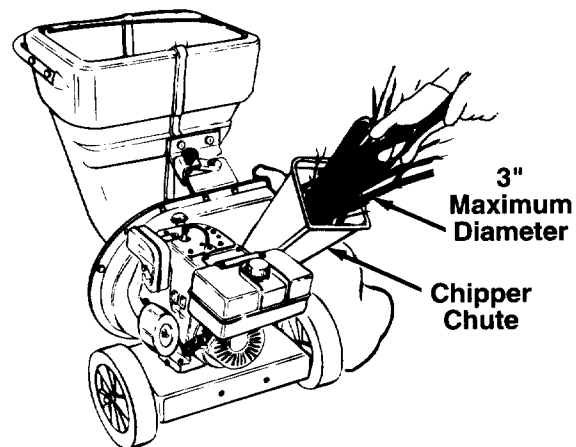

FIGURE 9.
3. Bulky material, such as stalks or heavy branches, **up to 3" in diameter** should be fed into the chipper chute. See figure 9.